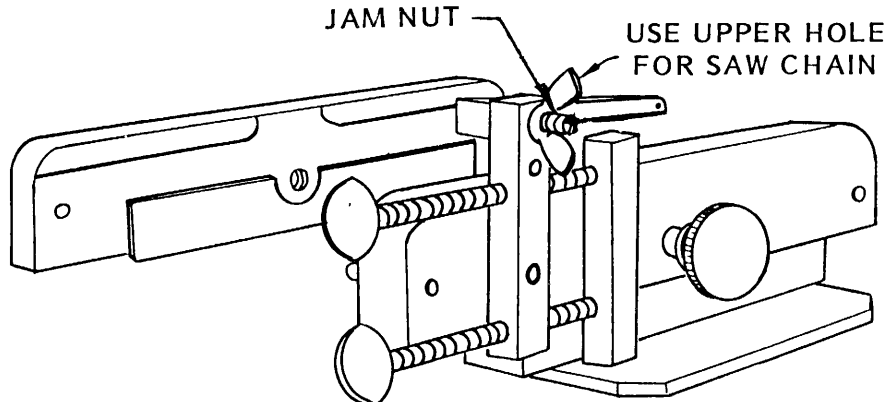

FIGURE 8
7. The bolt that the pawl pivots from should be in the upper hole for sharpening saw chain. (See Figure 8.) The pawl should be located directly over the chain, and locked in place with the jam nut provided.
8. Make sure the 16 gauge shim is in place between the clamping plates. (See Figure 8.)